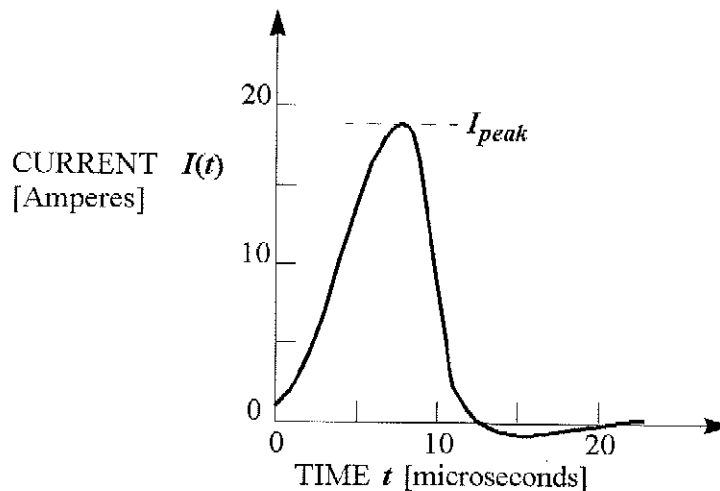

Fig. 1 - Output current $I(t)$ of ADVANCED TASER M26.
(2) **Current Pulses:** When activated ("fired") the ADVANCED TASER® M26 produces a sequence of approximately half-sinewave current pulses $I(t)$ [Amperes], each having a peak amplitude of I_{peak} of about 18 Amperes, and a duration of of about 11 microseconds, see Fig. 1.